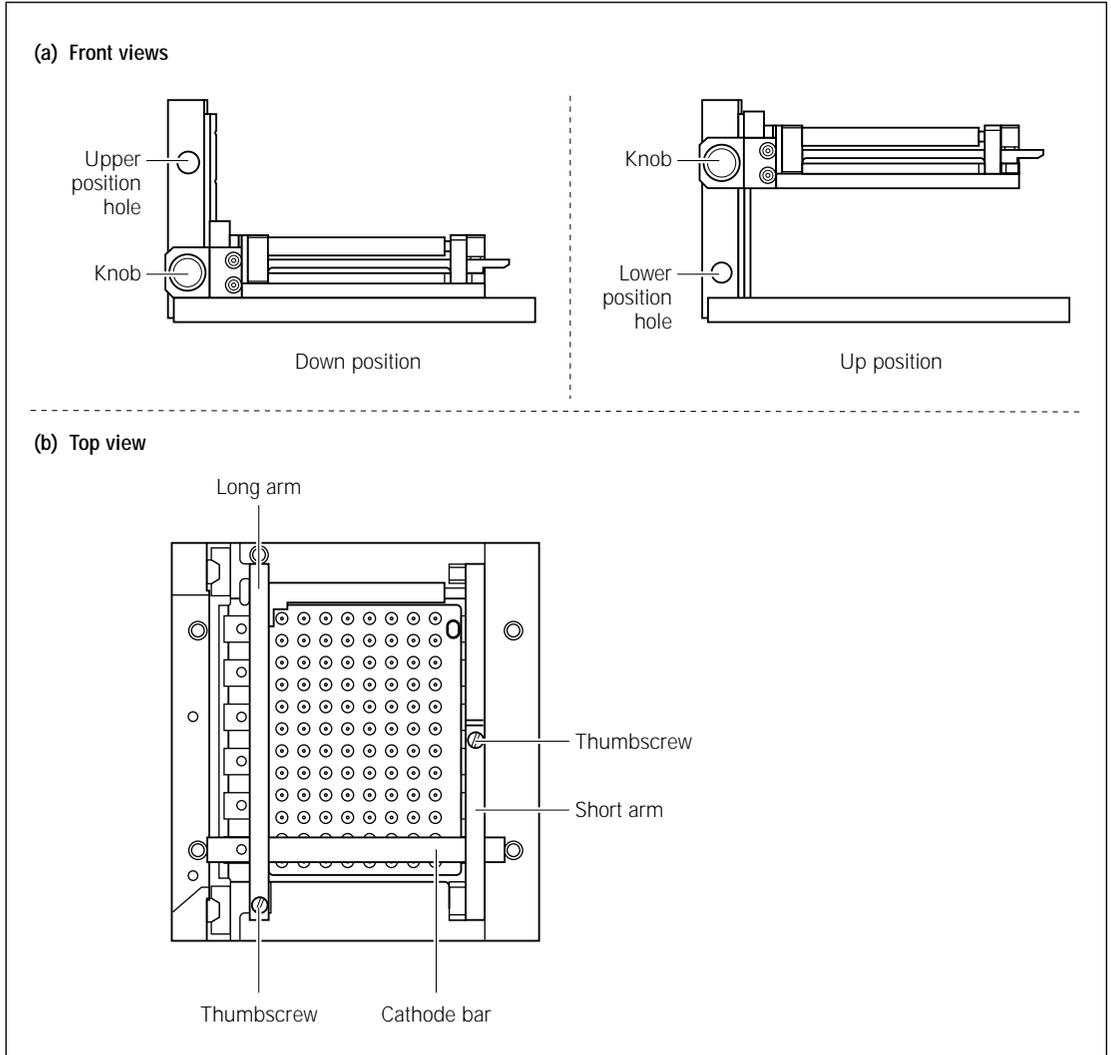

Figure 4-6. The cathode array stand: (a) front views and (b) top view.
4. Start with the front array labeled 6. Gently lift the left and right ends of the front cathode bar (figure 4-6) to release the bar from the cathode stand.